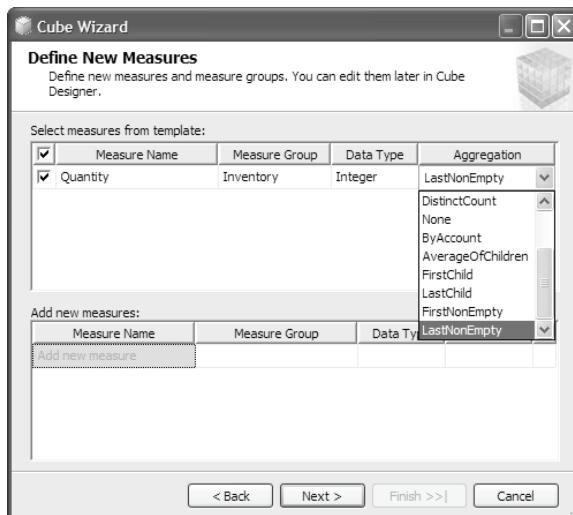

Figure 6.7 Run the Cube Wizard to build your UDM top-down. Consider using a cube template to speed up the UDM implementation.
2. Check the *Use a cube template* checkbox and select the *Adventure Works Inventory* template. Click *Next* to advance to the Define New Measures step (Figure 6.7).